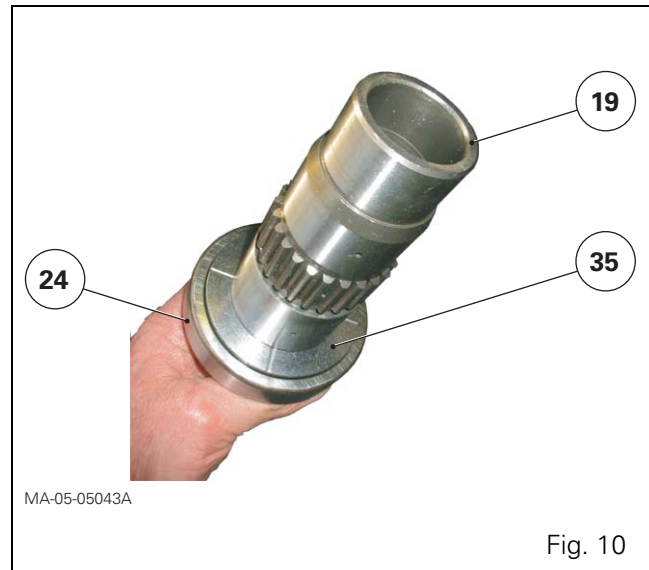

Fig. 10
17. Check that the ports and channels of the secondary shaft (19), shaft (13) and housing (26) are not blocked.
18. Lubricate the secondary shaft, the ring (7) and needle bearings (6) and (20).
19. If removed, place the washer (35) on the secondary shaft (19) as shown in Fig. 10.
Fit the ball bearing (24) home against the washer (35) (Fig. 10), using a press and a locally made sleeve (internal \varnothing = 47 mm; L = 60 mm).